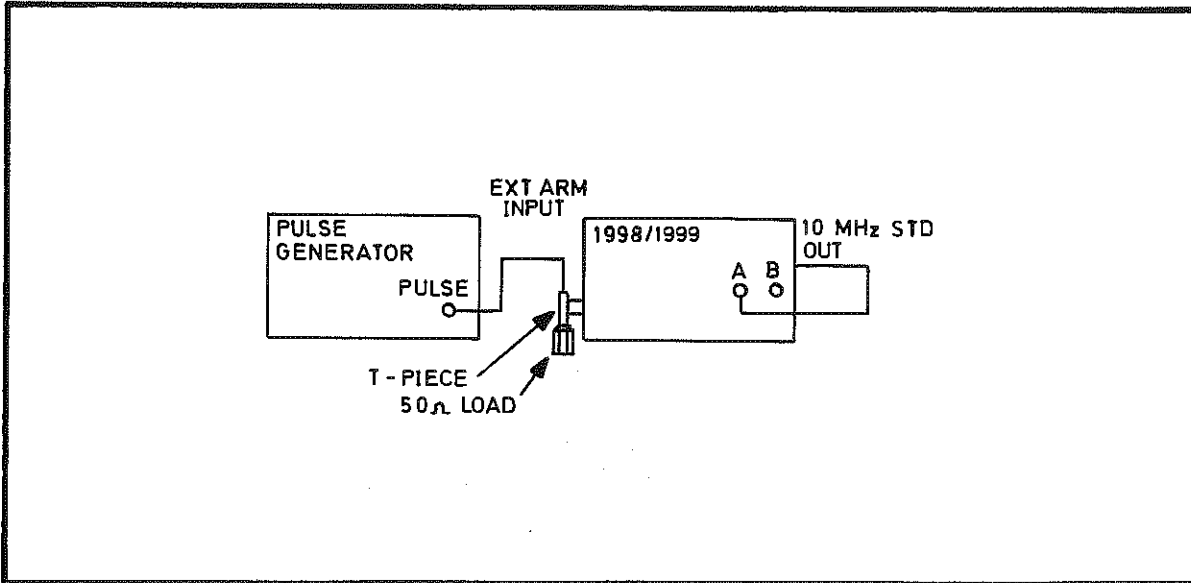

Fig 7.27 Connections for External Arming PVP
- (1) Select **FREQ A**.
- (2) Connect the test equipment as shown in Fig 7.27.
- (3) Prepare the pulse generator to give a single, 300 μ s, positive-going pulse with a low level of +0.4 V and a high level of +2.4 V (TTL limit levels).
- (4) Press **EXT ARM** .
- (5) Verify that the instrument is not counting.
- (6) Trigger the pulse generator to obtain a single pulse output.
- (7) Verify that the display indicates 10.000000 MHz \pm 0.000001 MHz and that the instrument is not continuously gating.
- (8) Press **EXT ARM** .
- (9) Disconnect the test equipment.